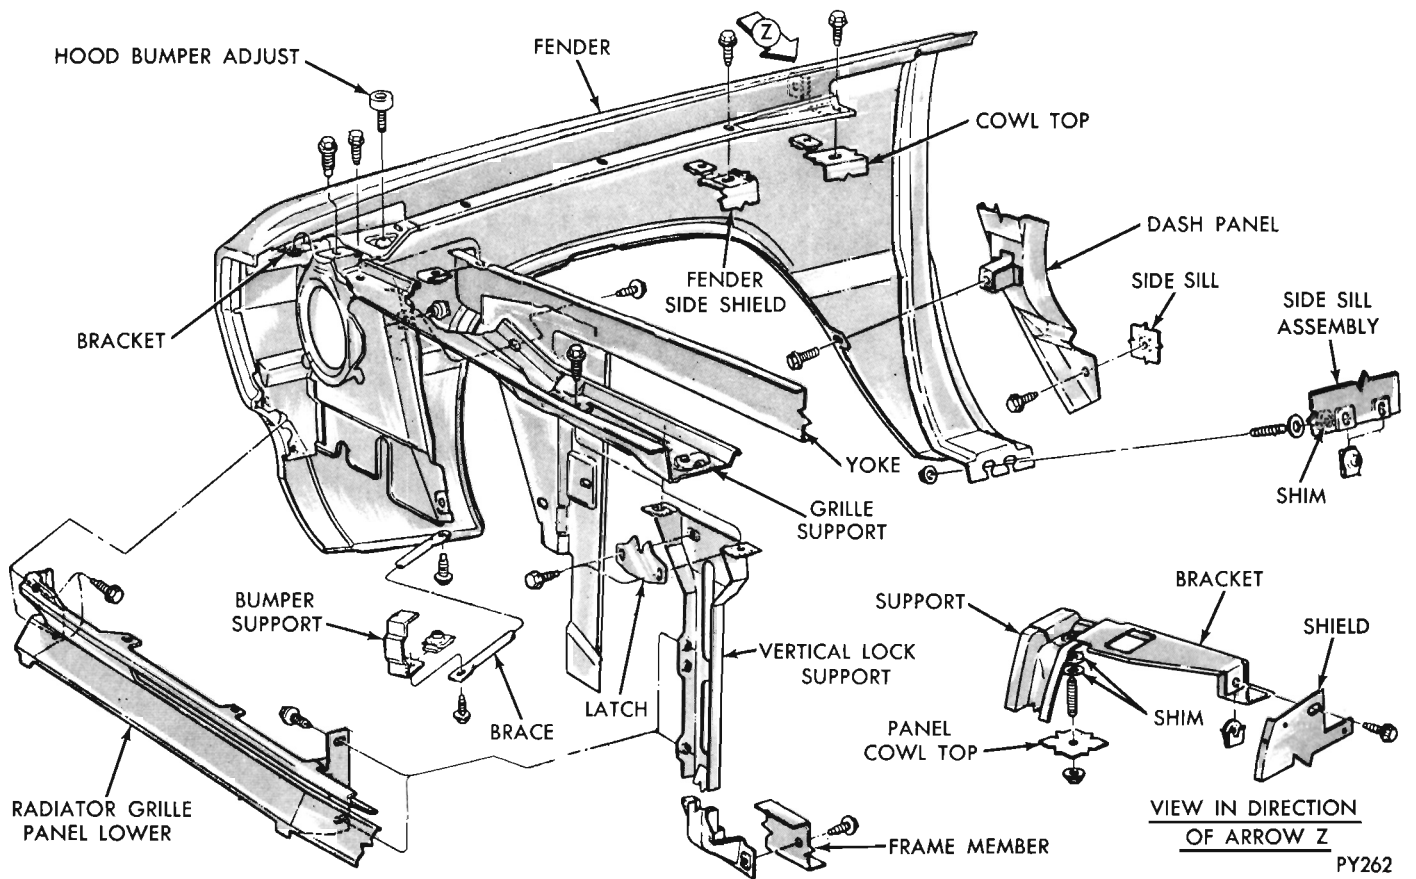

Fig. 6 - Fender Attachment
- (1) Disconnect battery ground strap.
- (2) Tape leading edge of front door and cowl to fender area to avoid damaging paint.
- (3) Remove front bumper assembly.
- (4) Disconnect head lamp wires and remove nuts attaching grille extension to fender.
- (5) Remove nuts and screws attaching fender to cowl, floor sill, wheelhouse or splash shields and radiator yoke (Fig. 6).